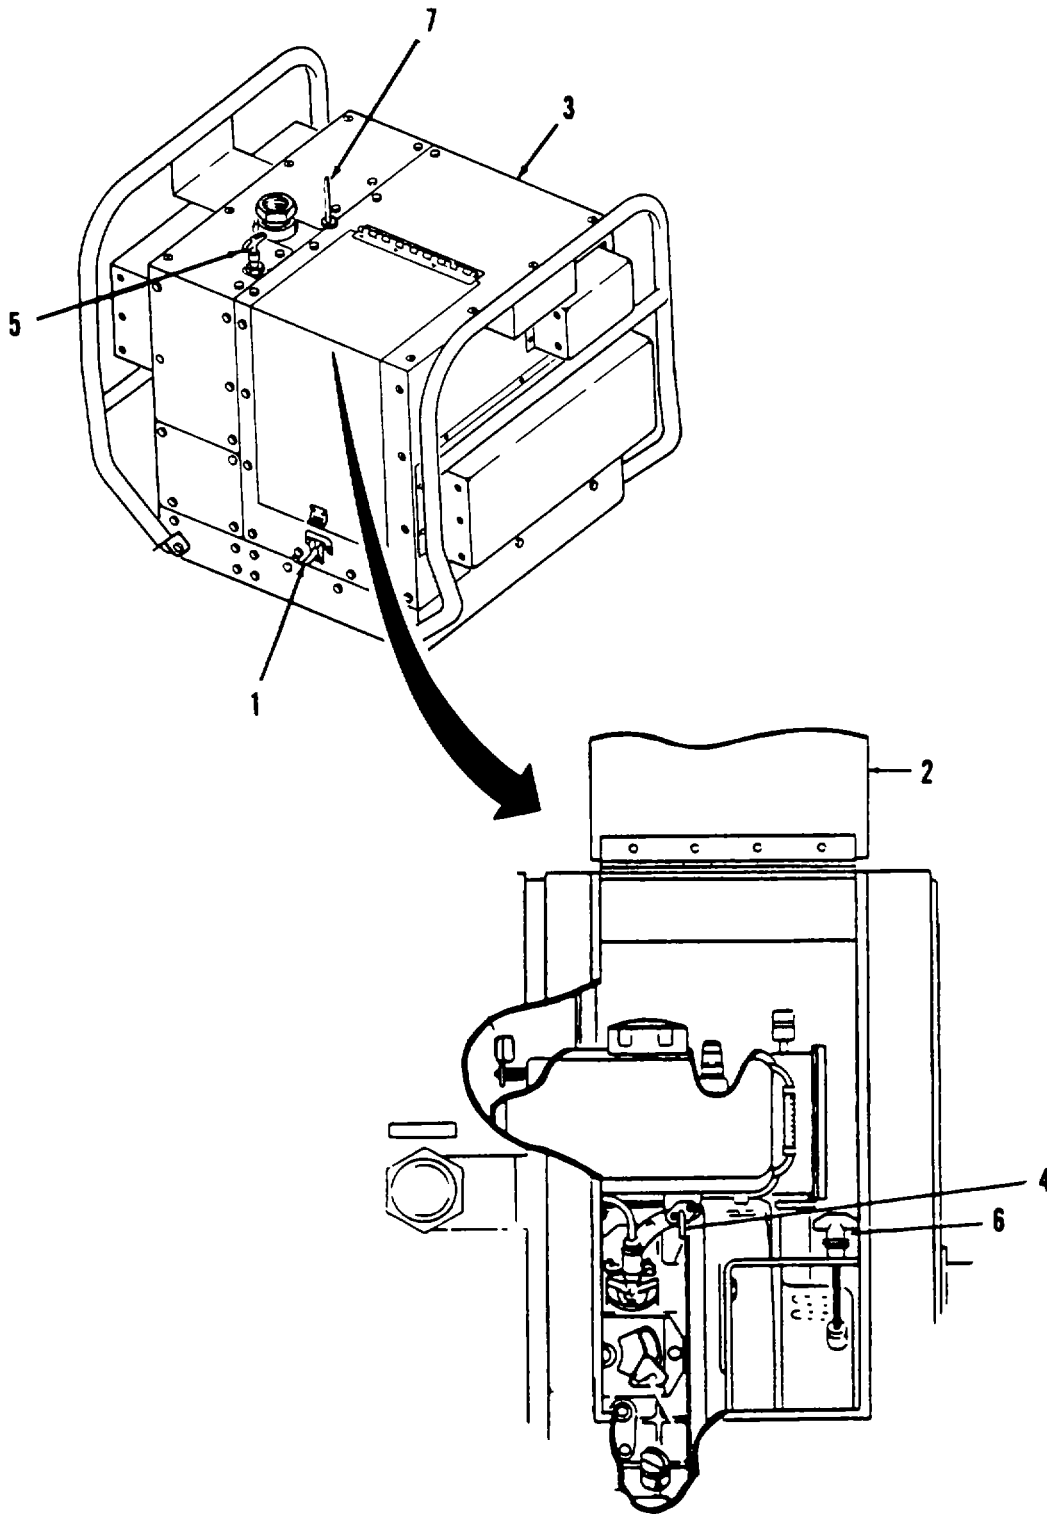

Figure 2-5. Starting and Operating the DED Pump Assembly.
a. Starting. After insuring that the DED pump assembly has been properly connected as indicated in para. 2-7, the DED pump assembly may be started by performing the following steps. (Refer to Figure 2-5.)
- (8) After 1 to 3 minutes, the centrifugal pump will start pumping water.
- (9) Close access panel (2) and engage latch (1).
b. Adjusting Speed. After engine has been started, the engine speed must be adjusted to set the DED pump assembly to pump the required rate of water. To adjust the engine speed, perform the following steps. (Refer to Figure 2-5.)
- (1) Rotate throttle control handle (5) 1/4 turn counterclockwise and either pull out the throttle control to increase speed or push in throttle control handle to decrease speed until desired pumping rate is achieved.
- (2) Rotate throttle control handle (5) 1/4 turn clockwise to lock handle when the desired speed and pumping rate are achieved.
c. Stopping. When the pumping operation is complete, the DED pump assembly must be shutdown by stopping the engine. To shutdown the DED pump assembly, perform the following steps. (Refer to Figure 2-5.)